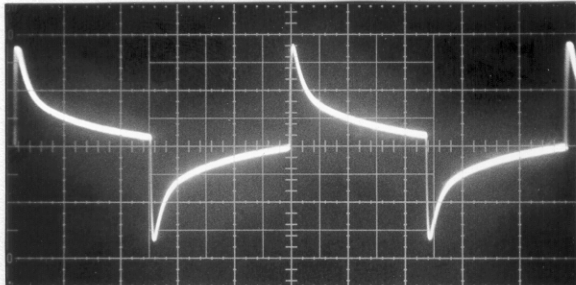
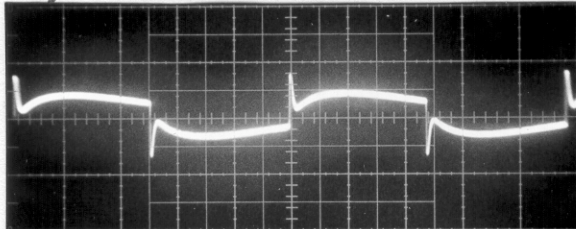

Fig. 4. Hi-Mid to 10.
Fig. 5. Hi-Mid to 0.
- B) Hi-mid to 10-Fig.4;Hi-mid to 0-Fig.5